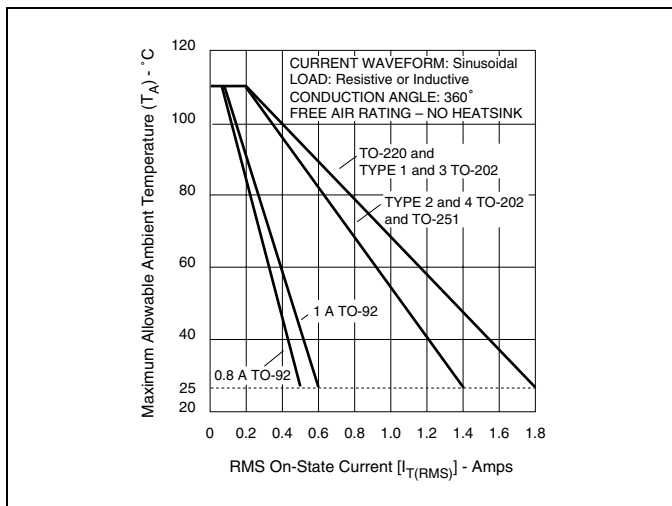
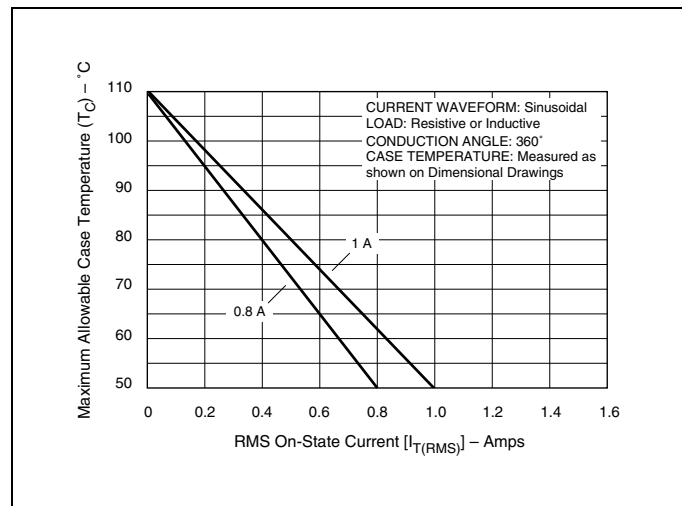
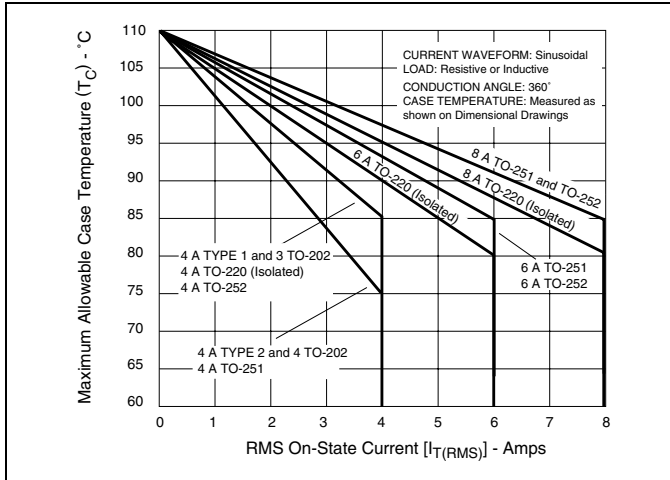

Figure E1.1 Maximum Allowable Ambient Temperature versus On-state Current
Figure E1.2 Maximum Allowable Case Temperature versus On-state Current (0.8 A and 1 A)
Figure E1.3 Maximum Allowable Case Temperature versus On-state Current (4 A, 6 A, and 8 A)
- (10) See Figure E1.2 and Figure E1.3 for maximum allowable case temperature at maximum rated current.
- (11) See Figure E1.1, Figure E1.2, and Figure E1.3 for  $T_A$  or  $T_C$  versus  $I_{T(RMS)}$ .
- (12) See package outlines for lead form configurations. When ordering special lead forming, add type number as suffix to part number.
- (13) Pulse width  $\leq 10 \mu s$
- (14)  $T_C$  or  $T_L = T_J$  for test conditions in off state
- (15) Minimum non-trigger  $V_{GT}$  at  $110^\circ C$  is 0.2 V.